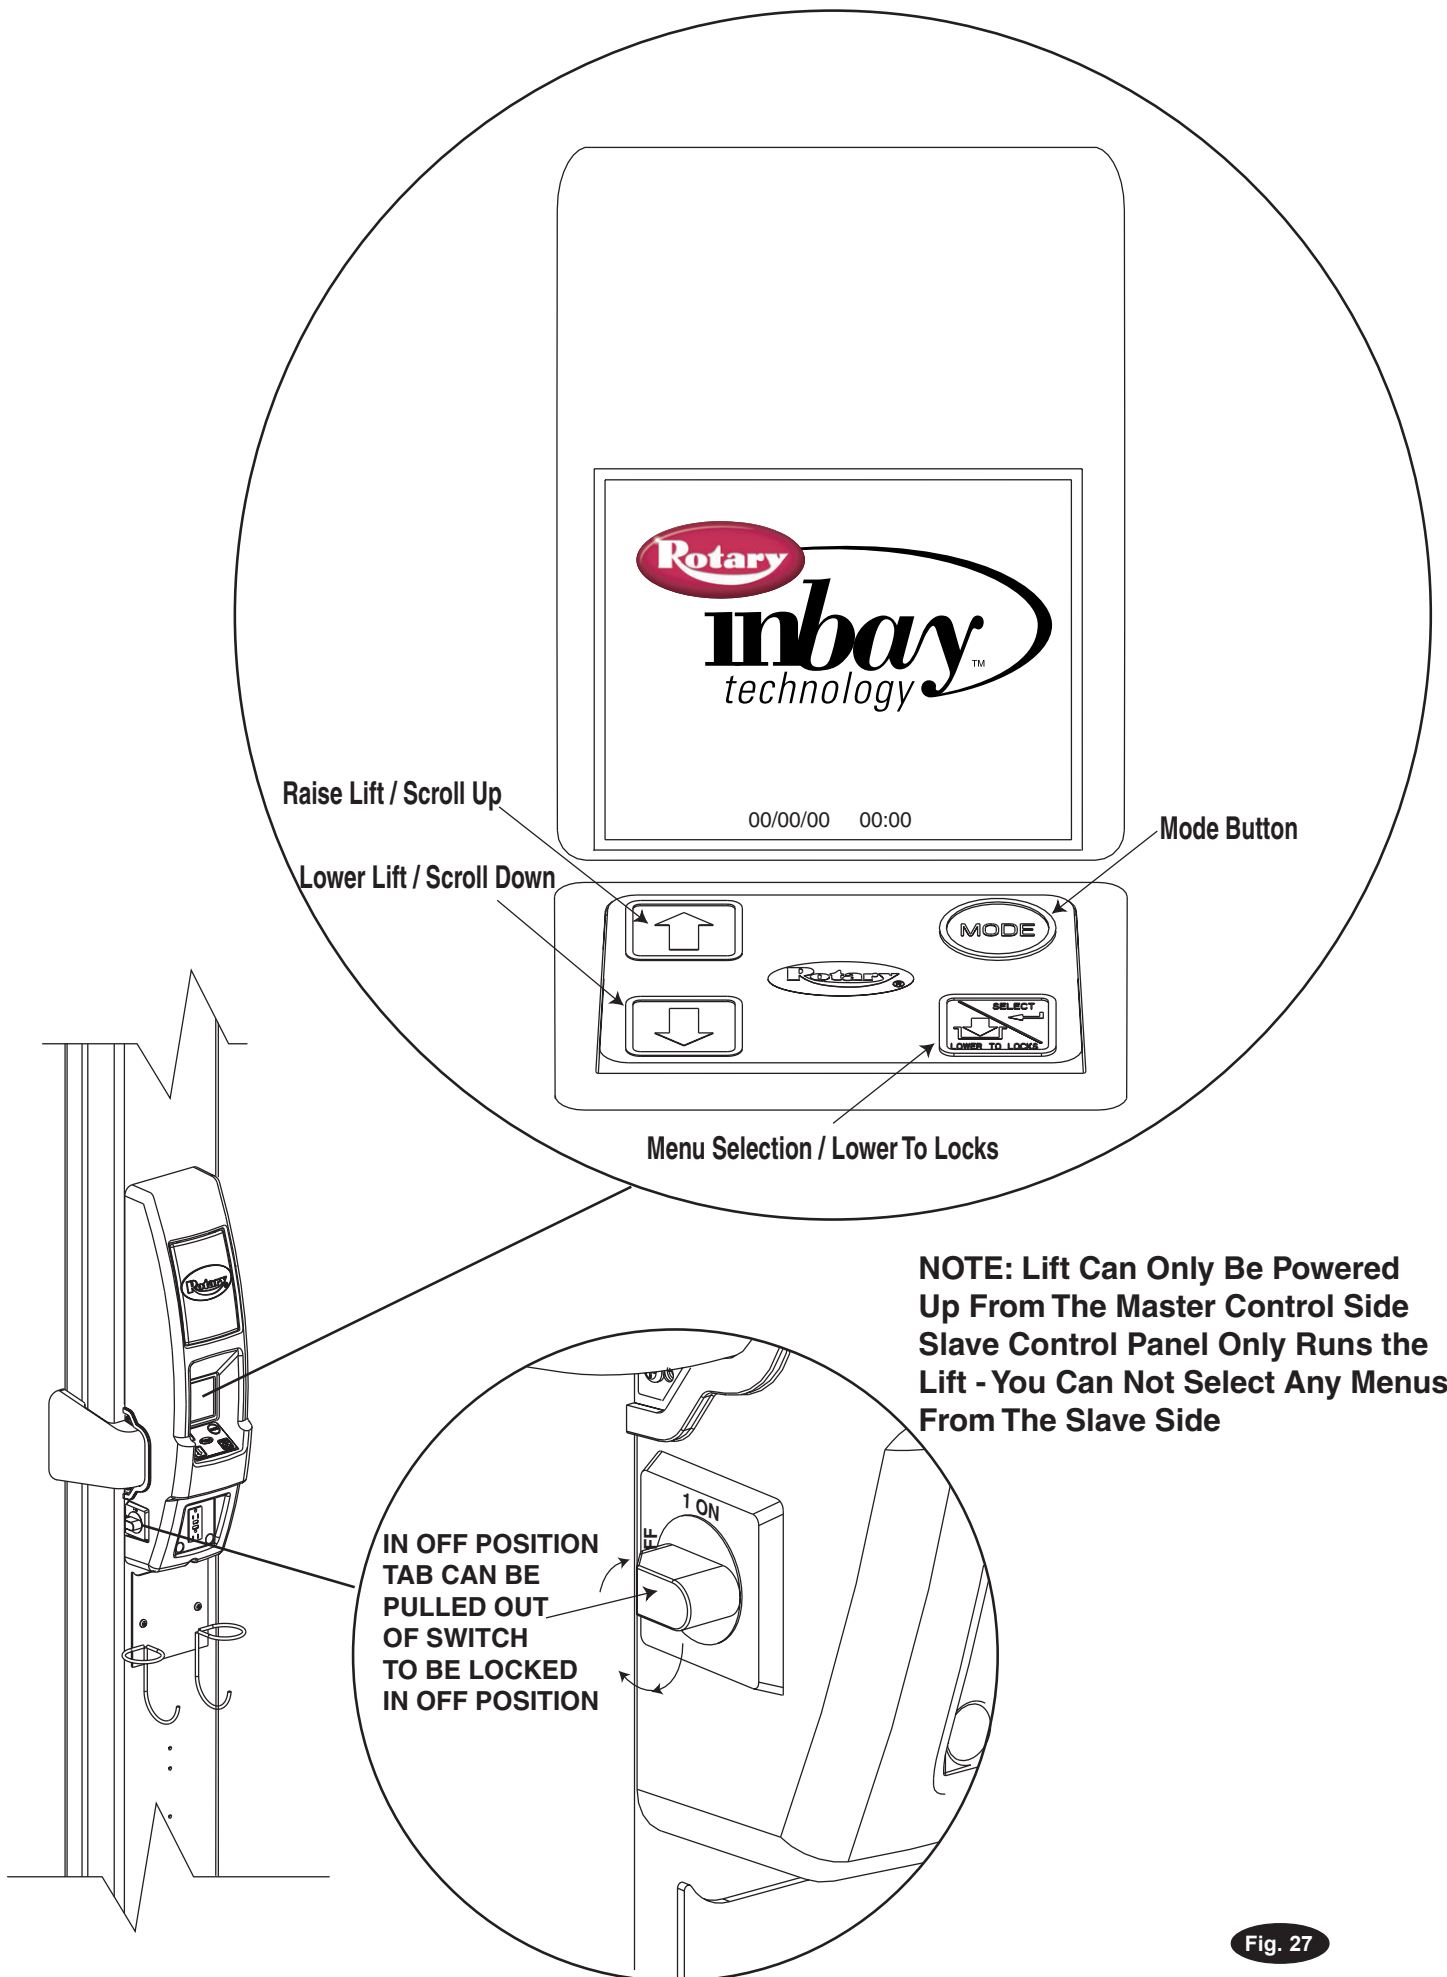

Fig. 27
22. Power Up: Turn disconnect to ON position from the master control panel, Fig. 27.
- A.) Use up, down, and select buttons to select language, Fig. 27.